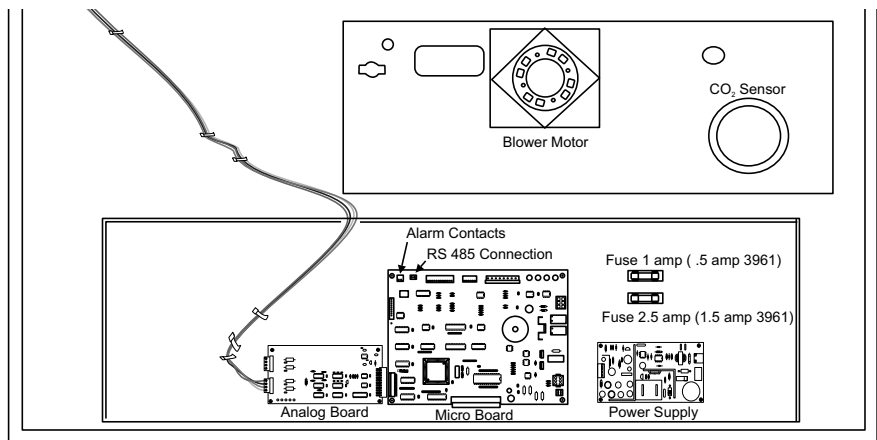

Figure 5-1. Fuse Locations
3. Refer to Figure 5-1 for the location of the two fuses.